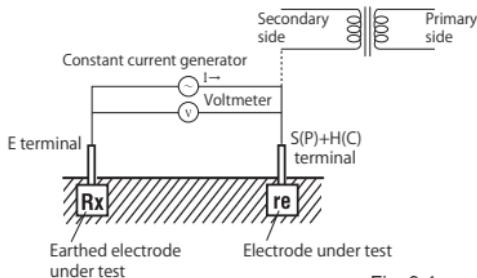

Fig. 9-1
Apply AC constant current “I” between the measurement object “Rx” (earthed electrode under test) and existing earth electrode “re” to obtain the voltage “V” between E terminal and H(C)+S(P) terminal and determine “Re+re”. (See Fig. 9-1.)